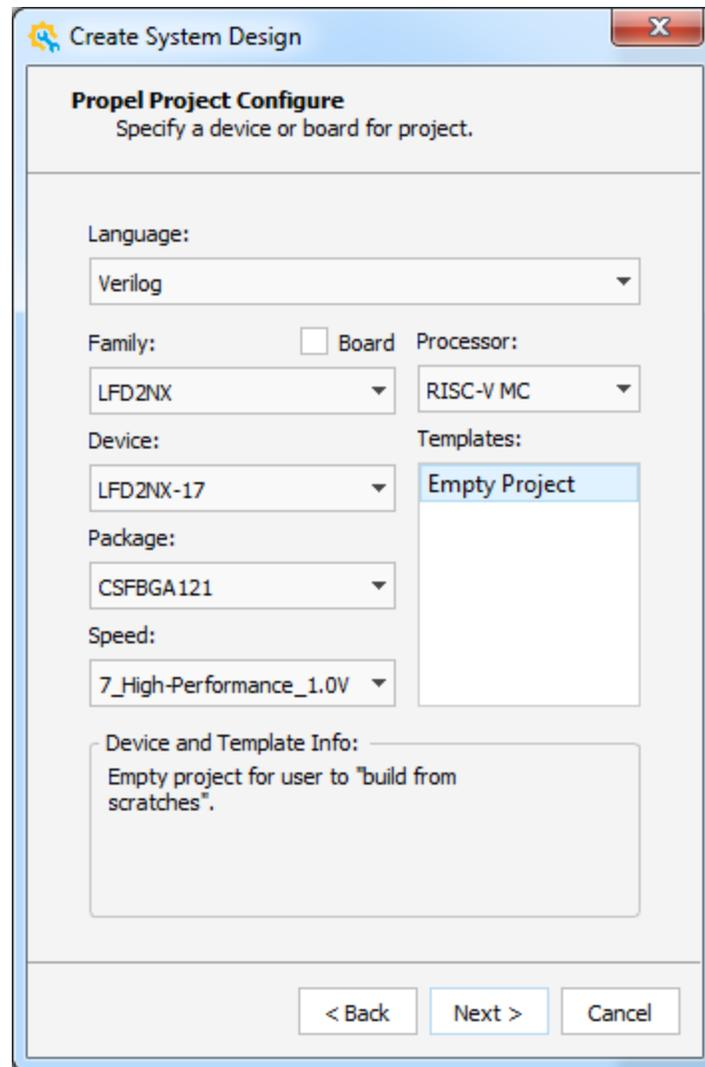

Figure 2.3. Create System Design - Propel Project Configure Wizard
5. Click **Next**. The Create System Design - Propel Project Configure wizard opens (Figure 2.3).
5. Click **Next**. The Propel Project Configure wizard opens (Figure 2.3).